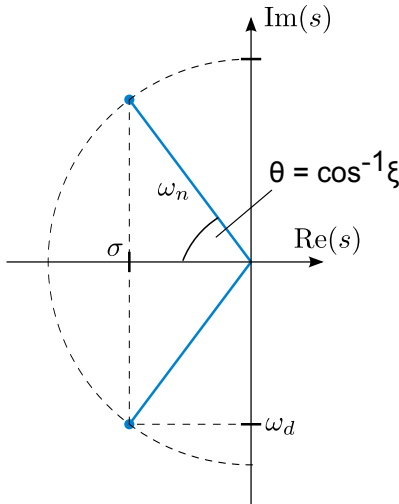

Figure 1: Location of the poles of (3) in terms of  $\omega_n$  and  $\xi$ .
For  $\xi \leq 1$ , the above system has complex poles, which are depicted in the complex plane in Figure 1. For
complex poles in the left half plane, we make the following important observations from Figure 1:
- Going back to Figure 1 and equations (5) and (4), how does an increase in  $K$  affect  $\xi$  and  $\omega_n$ ?